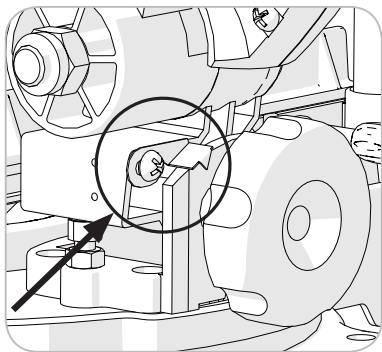

Fig. 7
- Ensure that the Cutting Head is upright, against its stop and the bevel pointer is indicating 0° on the scale. (Fig. 7)